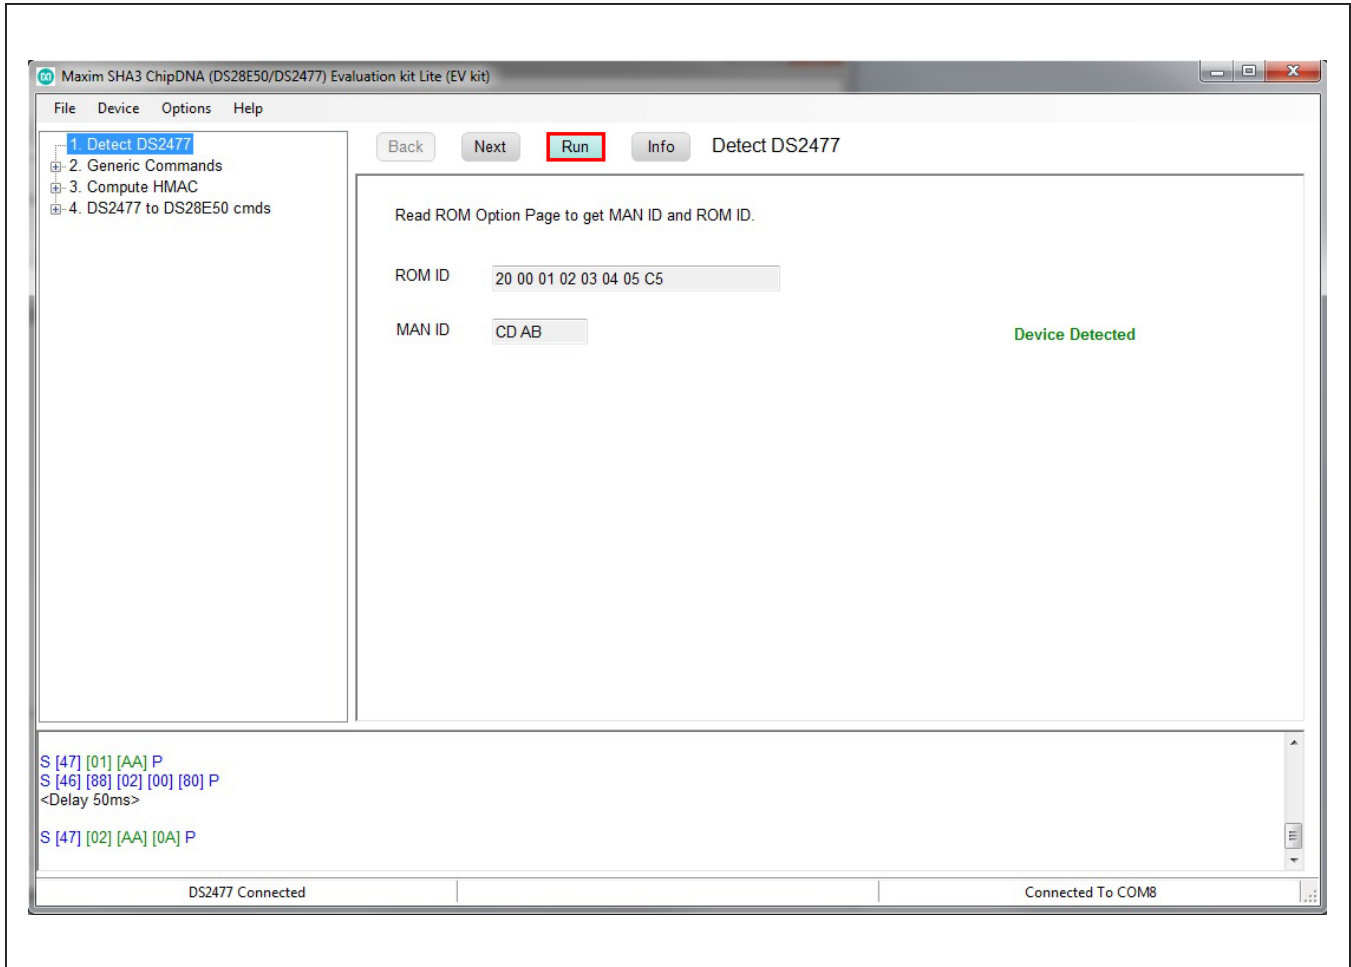

Figure 12. DS2477 Successfully Detected by the EV Kit Software
10) Wait for the green **Device Detected** message to appear and the ROMID and MANID fields to populate as shown in Figure 12. If this message does not appear, check your hardware connections.